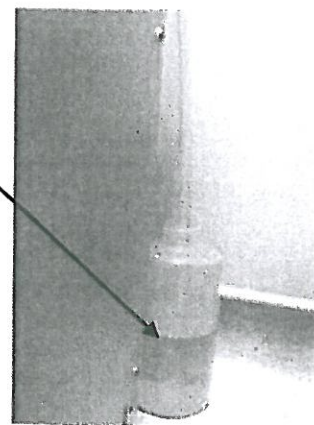

Figure 2. Container behind autoclave.
3. Check that level of water in container located behind autoclave is not overflowing (Figure 2).